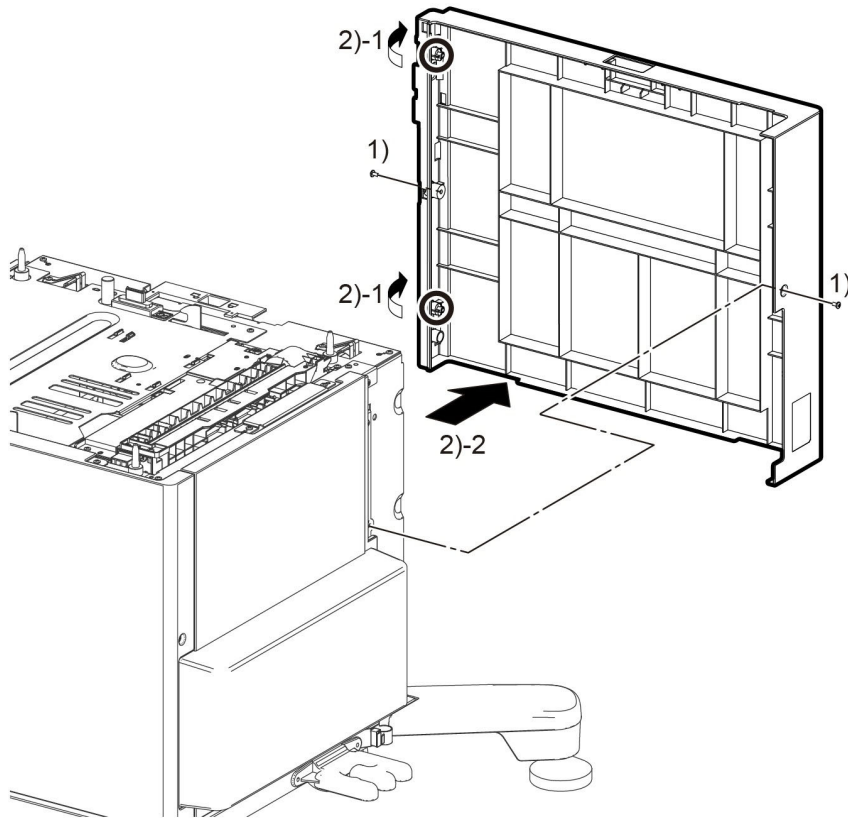

Figure 1 Left side cover
4. Remove the rear cover, Figure 1.